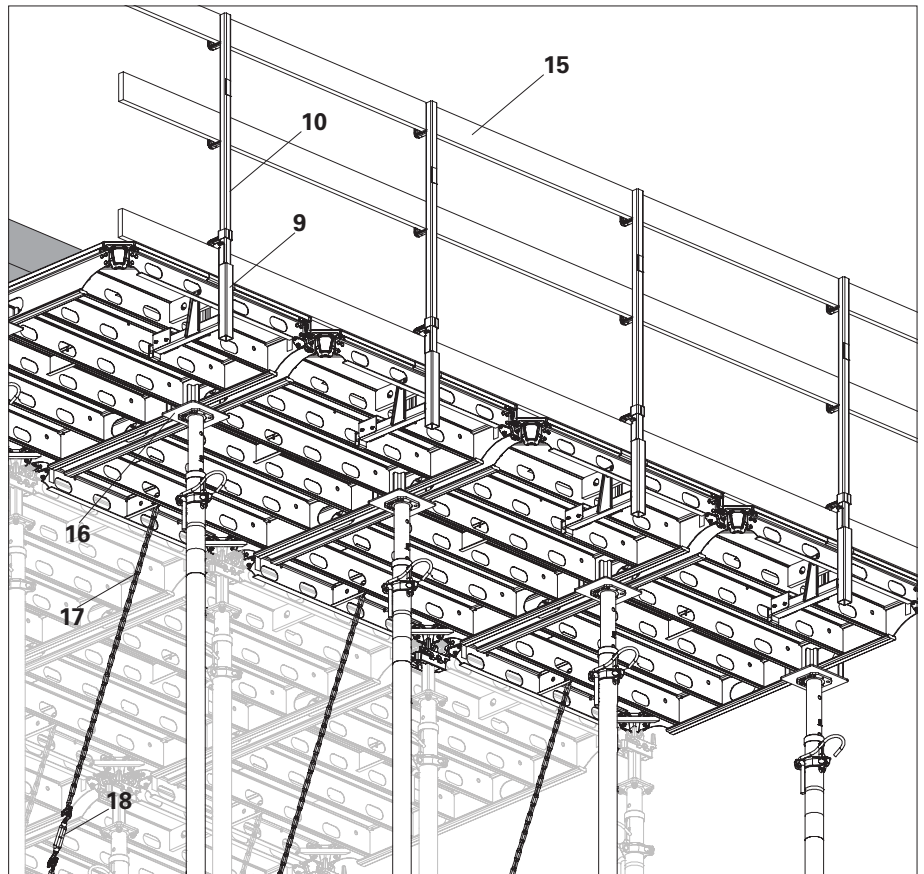

Fig. A10.03
5. Insert the Guardrail post HSGP-2 (10) into the Guardrail holder (9) from top only after it is firmly secured with anchor chains. (Fig. A10.03)
6. Insert Guardrail boards (15) and secure with nails. (Fig. A10.03)